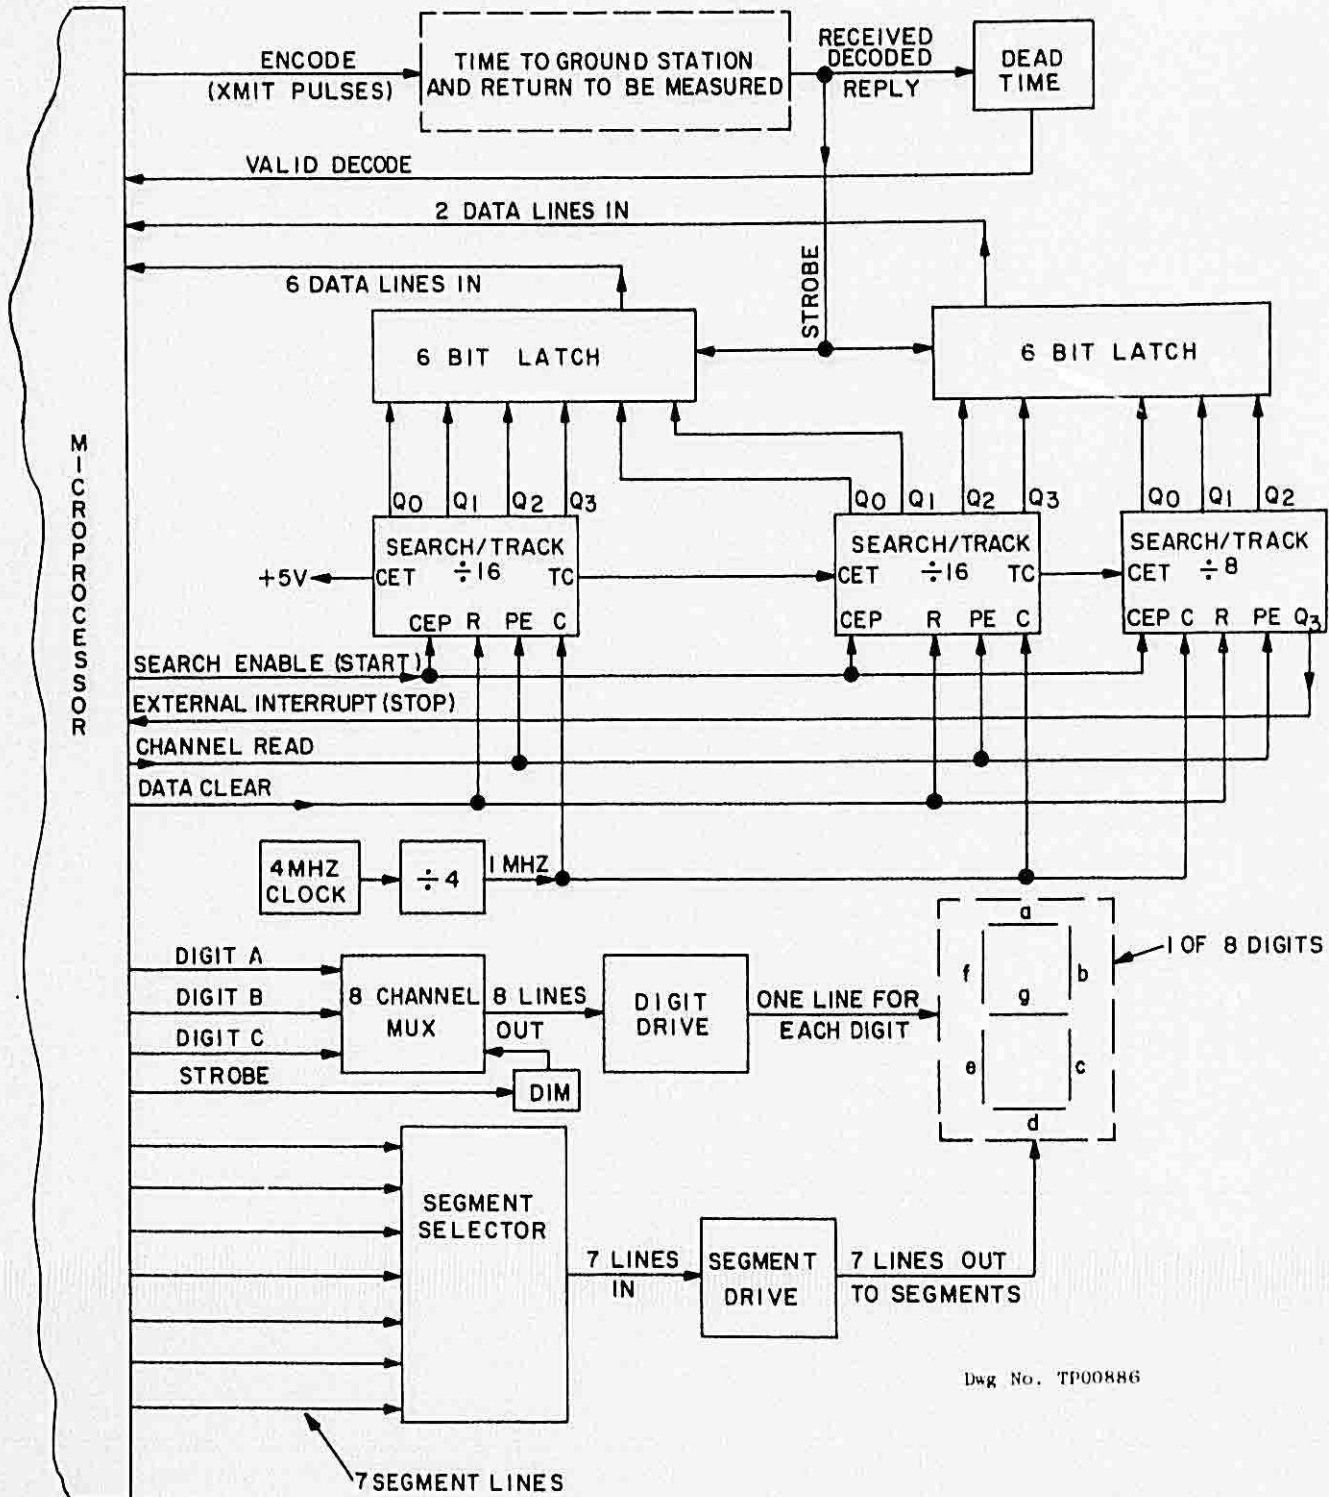
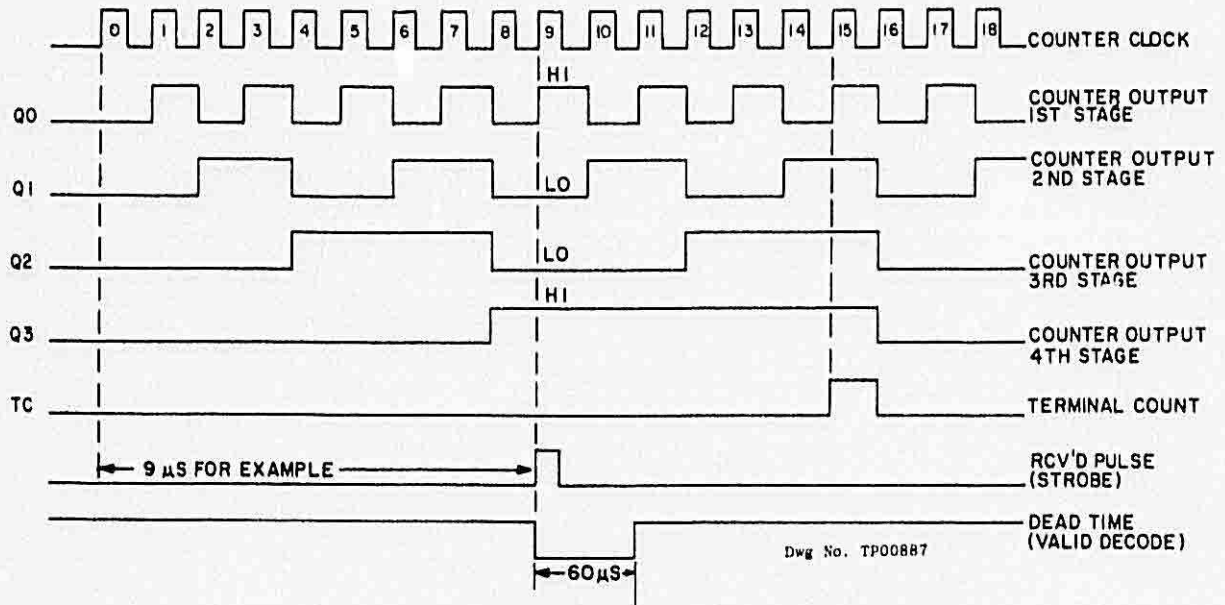

FIGURE 3-4. SEARCH TRACK EPIC
FIGURE 3-5. SEARCH TRACK TIMING DIAGRAM
During actual operation, the display is in increments of 0.1 nautical mile. The Search Track Counters count increments of 1.0 microseconds obtained from the divided down ($\div 4$) crystal controlled 4 MHz clock. The counters are started by the "Search Enable" port from the microprocessor 53 us after the "encode" port has turned on the transmitter. The 1 MHz clock pulses are fed into the counters without interruption. A single Search Track counter consists of four edge triggered "D" flip-flops (F-F) in series, capable of 16 counts with an output line from the output of each of the four flip-flops. The counters output is in a binary format. Each of the four output lines is capable of indicating the logic state of its associated F-F, a "1" (high) or "0" (low). Also there is a Terminal Count (TC) output line which is fully decoded and is high only on the 15th count and returns to logic low on the 16th count. The TC output from the first counter is connected to the "Count Enable Trickle" (CET) input of the second counter, and the TC output of the second counter is connected to the CET input of the third counter. The Count Enable Trickle input must be logic high to enable the counter. A logic low at the CET input inhibits the count sequence and freezes the output lines in their existing states at the time the CET input goes logic low. The condition of each output line is shown in Figure 3-5.
To satisfy these operating conditions, apply the control signals to the Search Track Counters. The "data clear" line from the microprocessor has set all the counters and latches to their zero state (all four output lines are logic low). The uninterrupted 1 MHz clock is present at the clock input of the counters. The "search enable" line from the microprocessor goes to logic high, enabling the counters. As the clock pulses are loaded into the counter, the count progresses in a binary sequence as shown in Figure 3-5 and Table 3.3.
If, at the count of 9, a reply strobe pulse is fed into the 6 bit latches, as shown in Figure 3-4 and Figure 3-5, the data at the latch inputs (Q0/Q3 are high, Q1/Q2 are low) will be transferred to the latch outputs for the microprocessor to read. At the same time the latches are being strobed, the "Dead Time" multivibrator is triggered (60 us), and its output is the "Valid Decode" input to the microprocessor. Upon receipt of the Valid Decode, the microprocessor accepts the data from the latches and during the 60 microsecond duration of the multivibrator it will not accept any new data. This 60 us Dead Time is to suppress echoes (signal multipath).